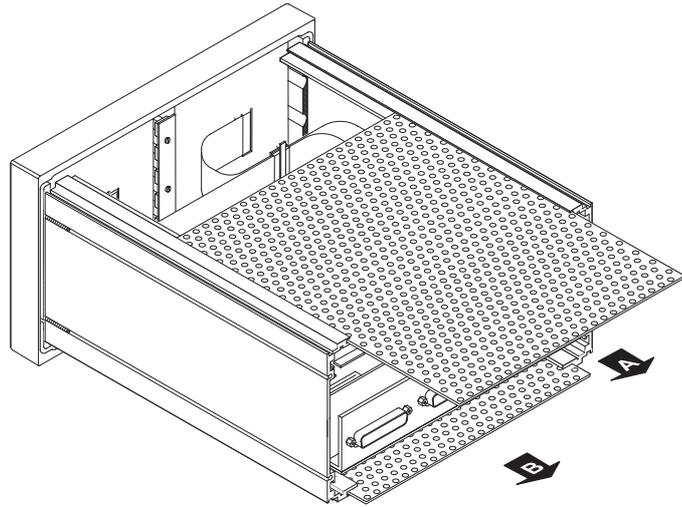

Fig. E 8-25: Removing the perforated cover metal plates
- Carefully pull the perforated cover metal plates out of the frame (see Fig. E 8-25).